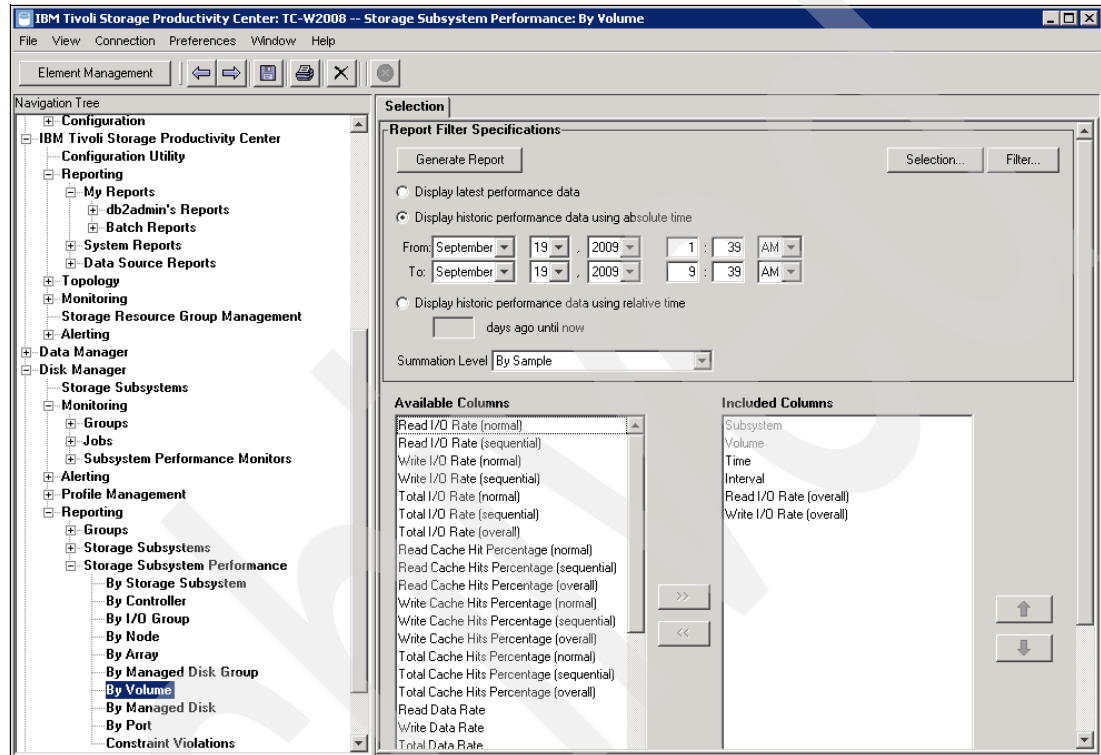

Figure 9-34 Selecting performance metrics and historical data
2. On the Selection tab, move all performance metrics in the Included Columns into the Available Columns, except for read I/O rate (overall) and write I/O rate (overall) metrics. Check the Display historic performance data check box and select the start and end dates to generate a historical report, as shown in Figure 9-34.